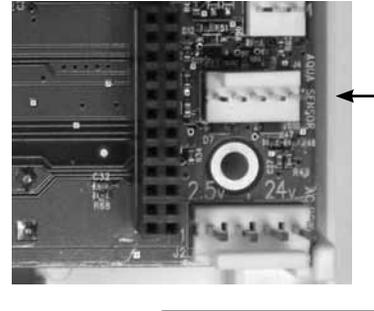

Figure 20.
4. Plug the connector into the circuit board at the position labeled Aqua-Sensor®. See Figure 20.